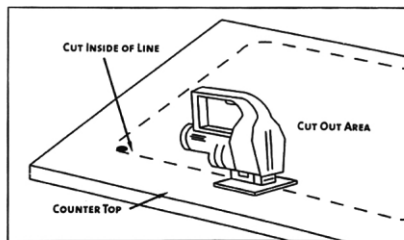

FIGURE 2
4. Trace the line of the template and cut countertop according to templated size. using appropriate cutting tools. Template is for guide only. Use physical sink to ensure accurate cutout opening. (FIGURE 2)